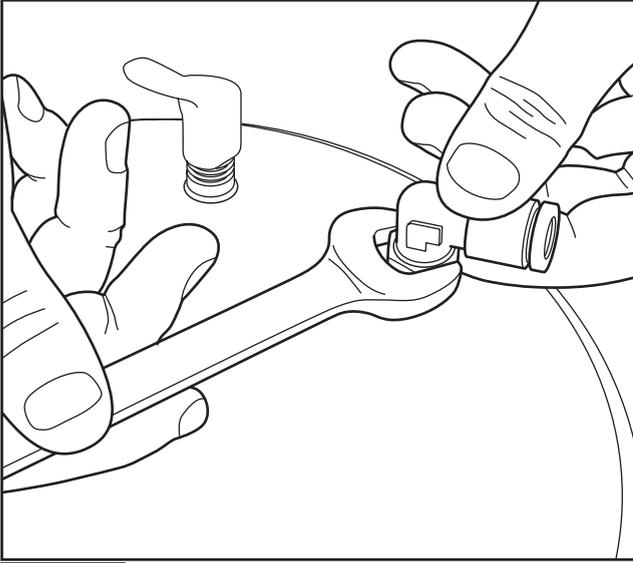

Fig 4.5
5. Remove the air fitting (Fig 4.5).